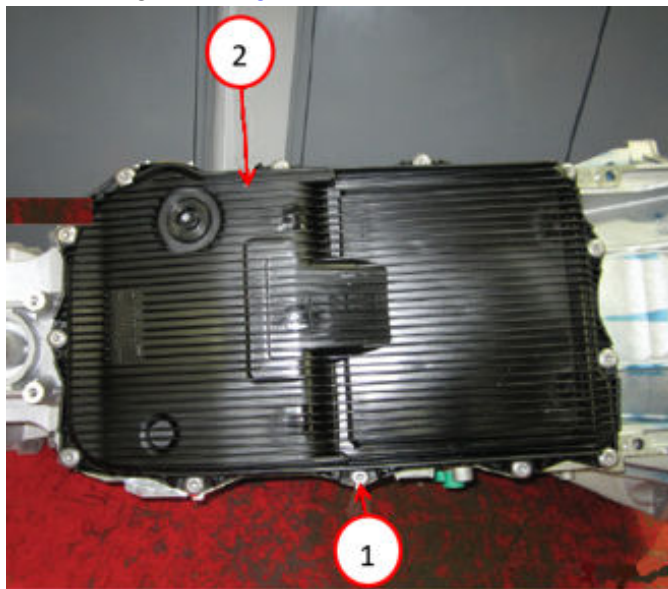

Fig. 50
76. Position the transmission oil pan and gasket Fig. 50.